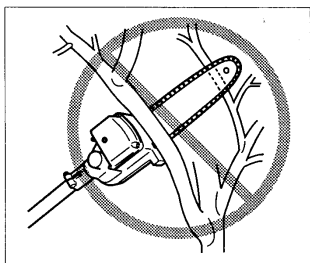

Fig. 2-12
- Look out for branch immediately behind the branch being cut. If blade hits rear branch damage to blade may occur. (Fig. 2-12)